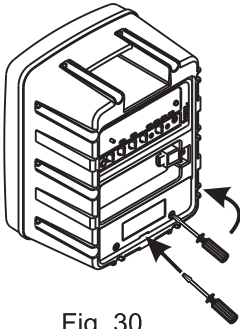

Fig. 30
- (A) Lay the PA system on a flat surface. Remove the two screws and use flat blade screwdriver to open the battery compartment cover, Fig. 30.